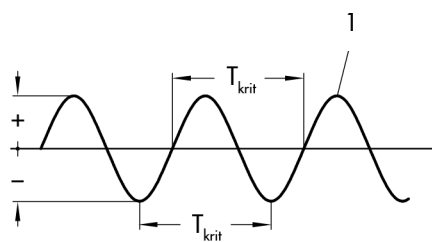

Fig. 17: Harmonic oscillation pattern
9. Starting from a low value, increase the proportional-action coefficient **Kp** until the controlled variable pointer shows an harmonic oscillation pattern (uniform oscillation amplitudes as shown in Fig. 17). If oscillations do not arise with a large **Kp** setting, turn the rotary knob to slightly change the set point and then return it to its former setting. It may be necessary to increase the gain (**Kp**) slightly until an harmonic oscillation pattern arises.